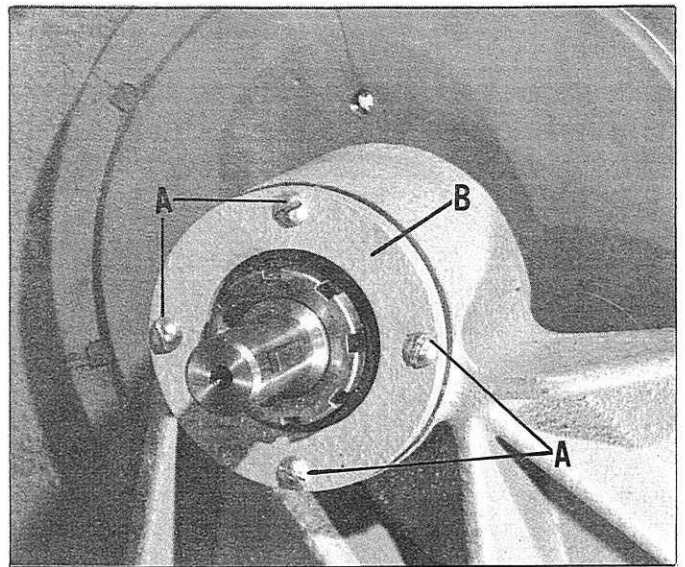

Fig. 29.
9. Remove the four screws (A) Fig. 29, and remove the retaining plate (B).